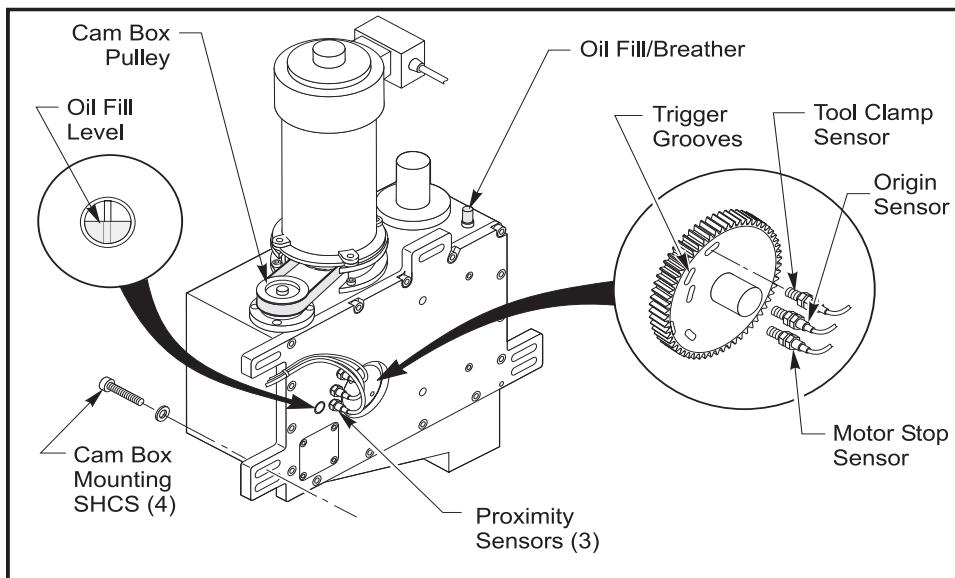

Figure 3-76 Proximity Sensor Switch Location
6. Refill the cam box with oil (Penzgear 320) to the fill level line. See Figure 3-76.